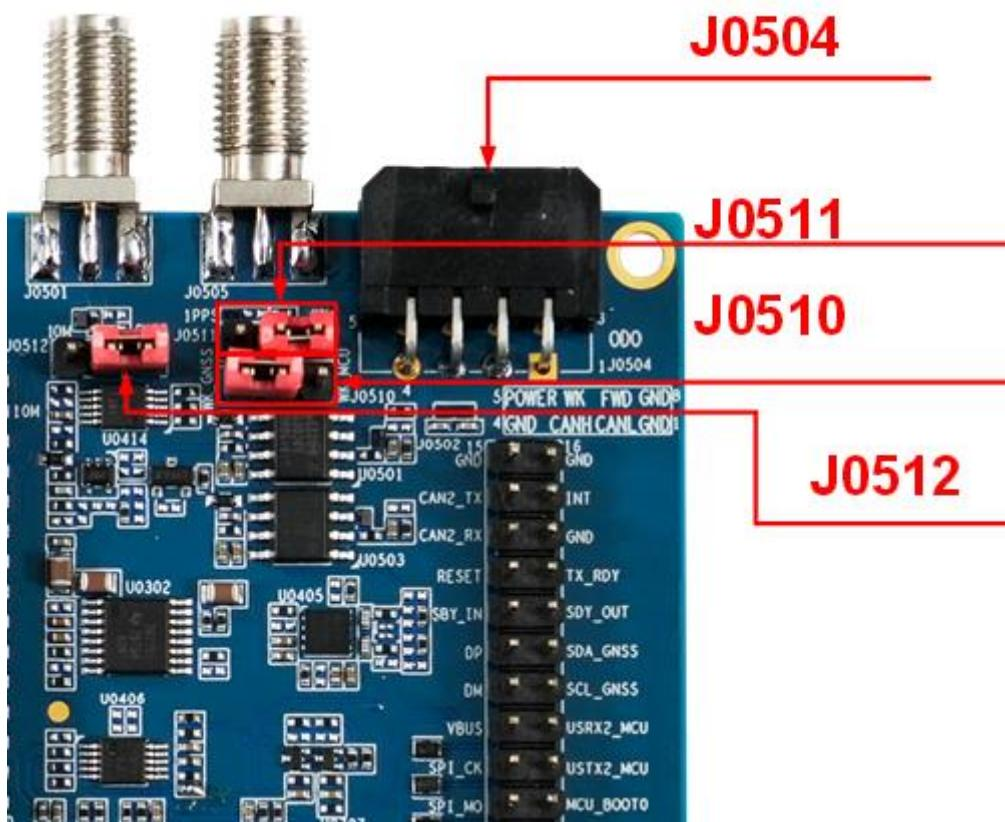

Figure 22: Injecting Vehicle Speed via WHEELTICK
**Step 1:** Connect the WK pin, the FWD pin, and a GND pin of J0504 to the corresponding interfaces on your device, and short-circuit pins of J0510, J0511, and J0512 as indicated in Figure 22: Injecting Vehicle Speed via WHEELTICK.